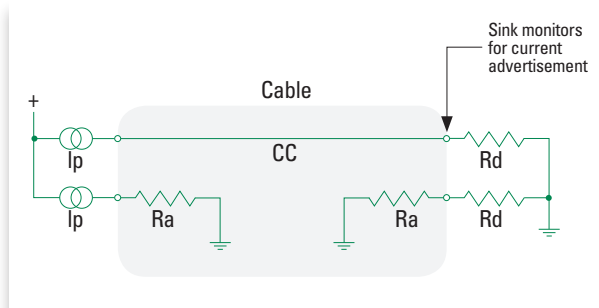

Figure A1. Sink monitoring for current in current Source/pull-down CC model
1. The Source provides a current Source as seen in Figure A1.